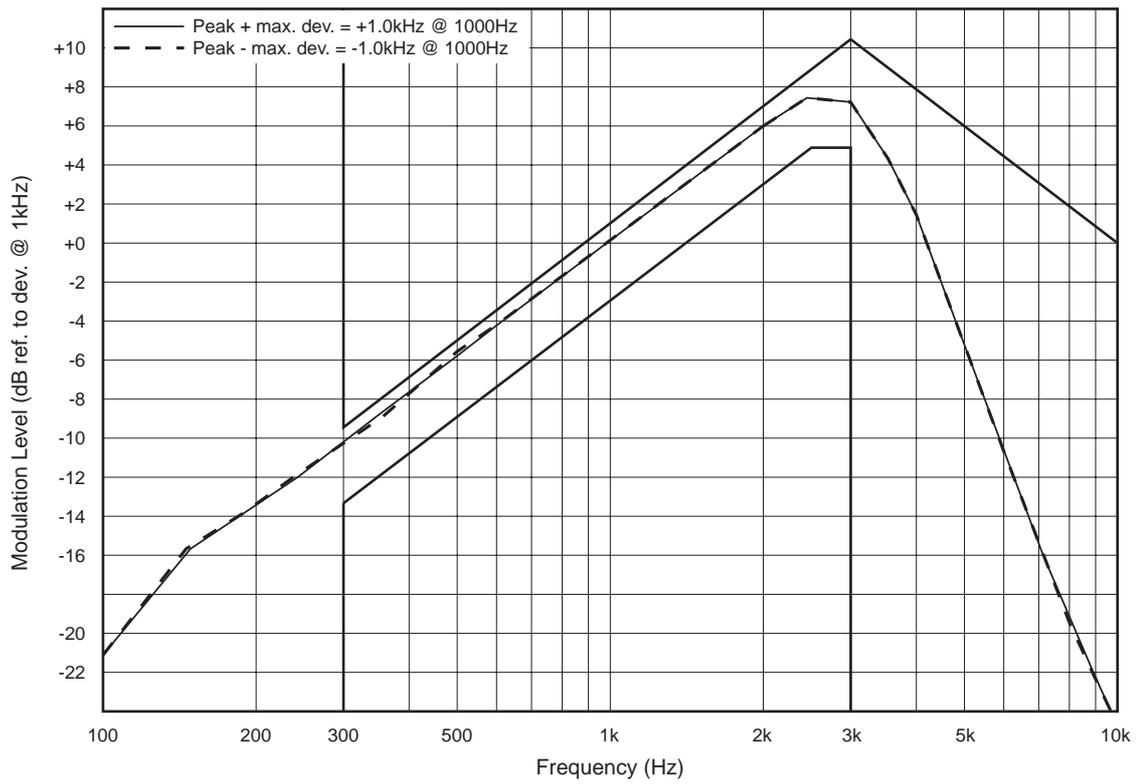
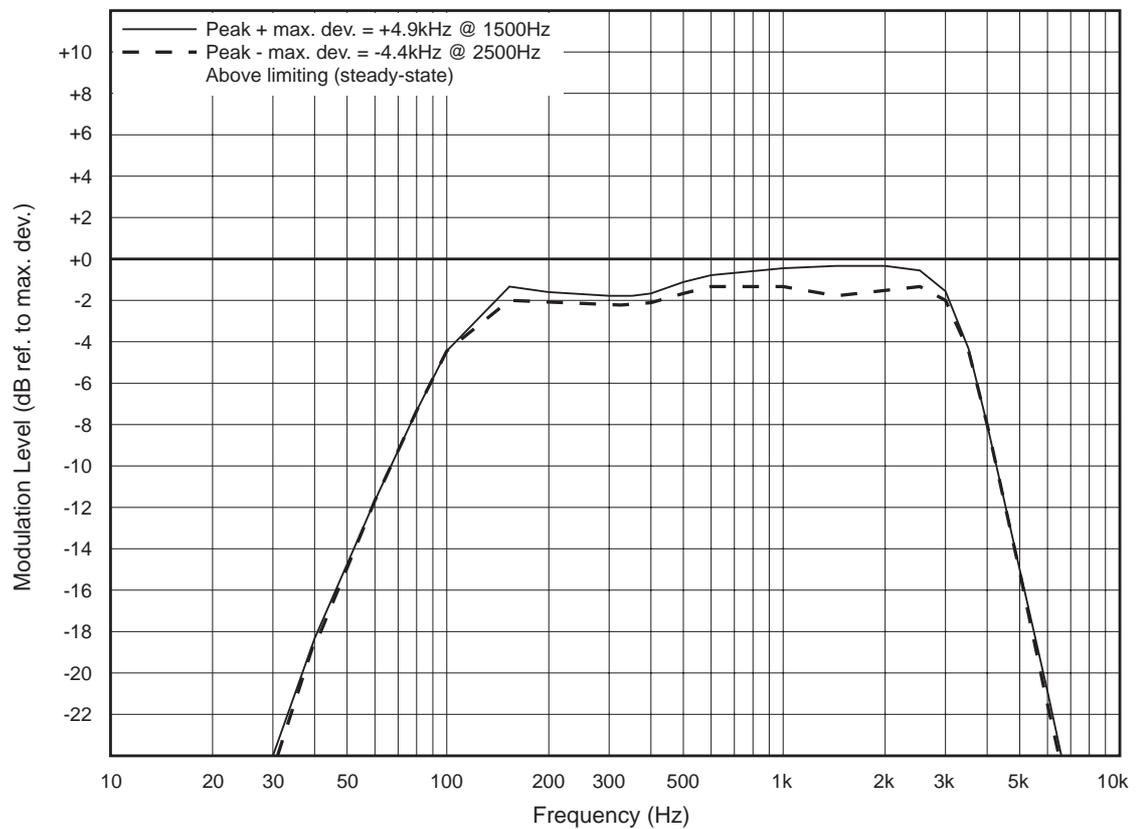

Figure 4.1 T826/827 Pre-emphasis Response
Figure 4.2 T826/827 Limiting Response
If the T826/827 has been correctly adjusted, the pre-emphasis and limiting responses should closely match those shown in Figure 4.1 and Figure 4.2 respectively.
- The response should closely match that shown in Figure 4.1.
- The response should closely match that shown in Figure 4.2.